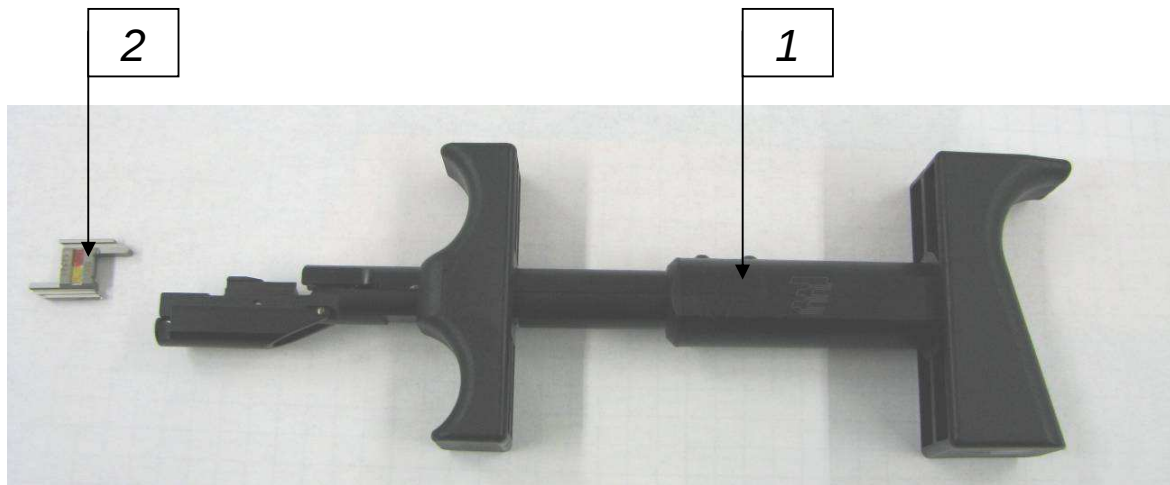

Figure 1
The Termini-Point service tool (Fig.1) consists of a basic tool (1) and a stripping insert/ Mandrel (2). There is a service tool for Termini-Point standard with the TE P/N 655498-1 and a service tool for Termini-Point Maxi with the TE P/N 654632-1. The tool shown in the photos is a service tool for Termini-Point standard. Both types are identically constructed.